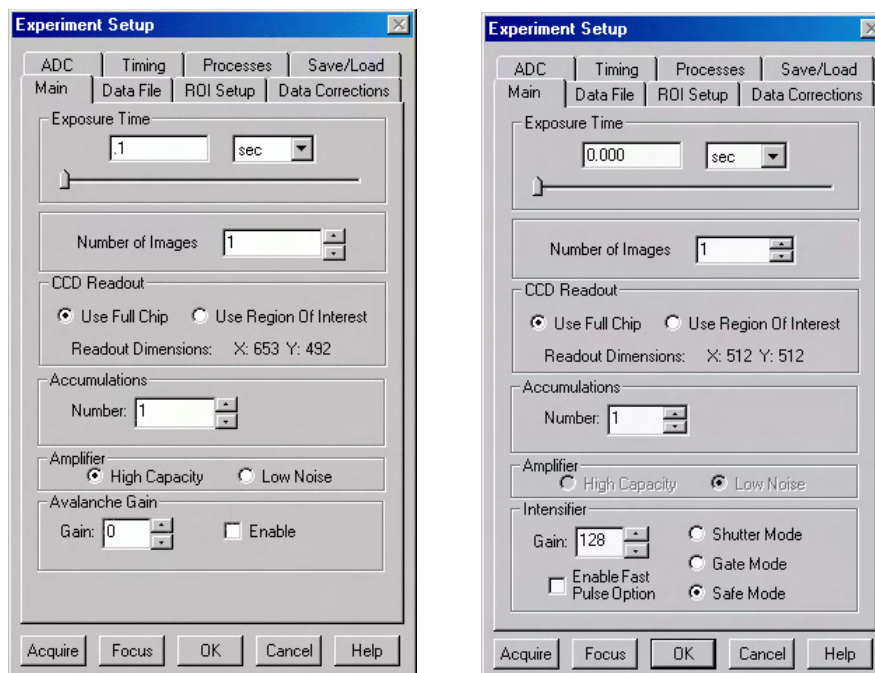

Figure 47. Experiment Setup: Main tab page; left, all but PI-MAX; right, PI-MAX
1. Open the Experiment Setup dialog box (Figure 47) from the Acquisition menu or by clicking on the  button on the **Custom Toolbar**.